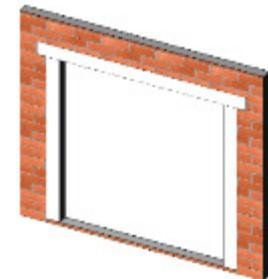

Figure 24:
3. Finally, at the head, embed the flashing into the sealant on the mounting flange and fasten into place. The flashing paper should be cut sufficiently long enough to extend past the flashing paper at each jamb by at least 3" (Figure 24).